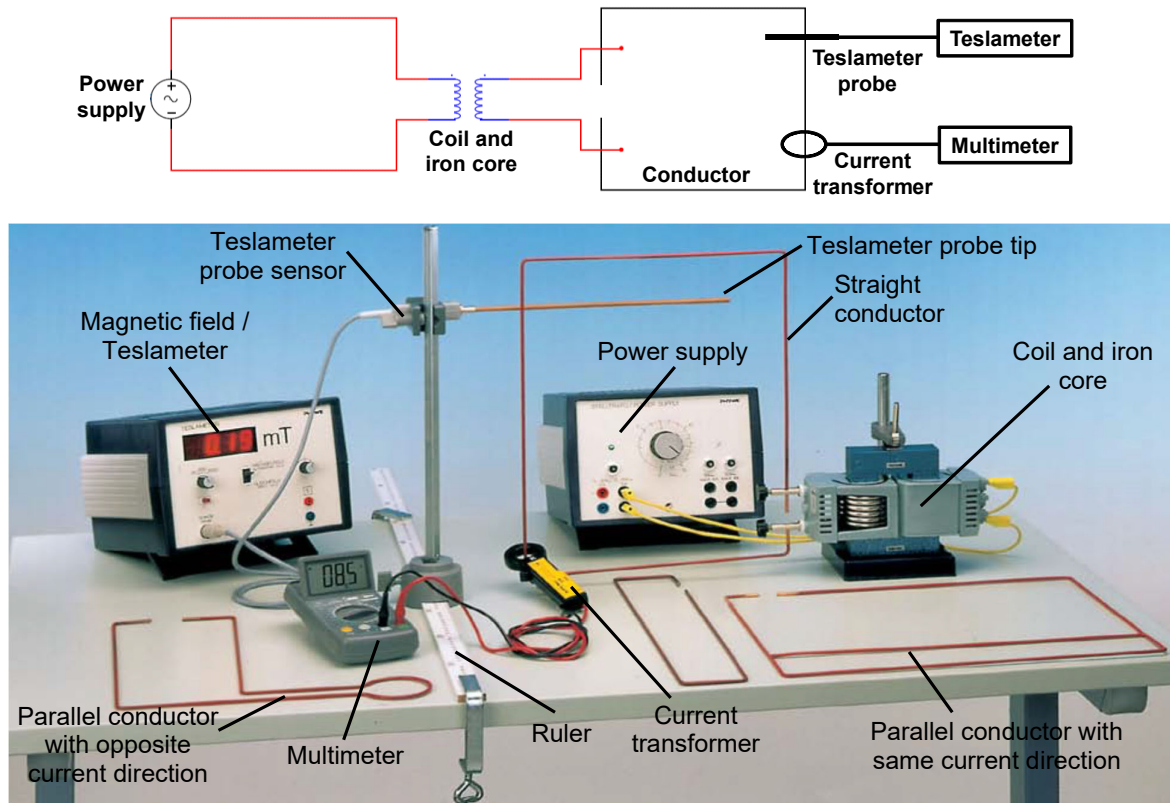

Figure 1: Experimental to determine the magnetic field outside straight conductors
1. Set the experimental circuit as shown in Figure 1.